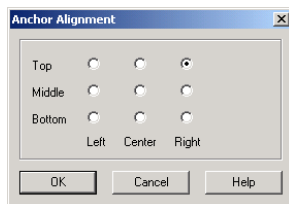

Figure 10-15. The Anchor Alignment dialog.
- **Anchor:** Specify which part of the legend is anchored in the selected position. The Anchor Alignment dialog is shown in Figure 10-15.